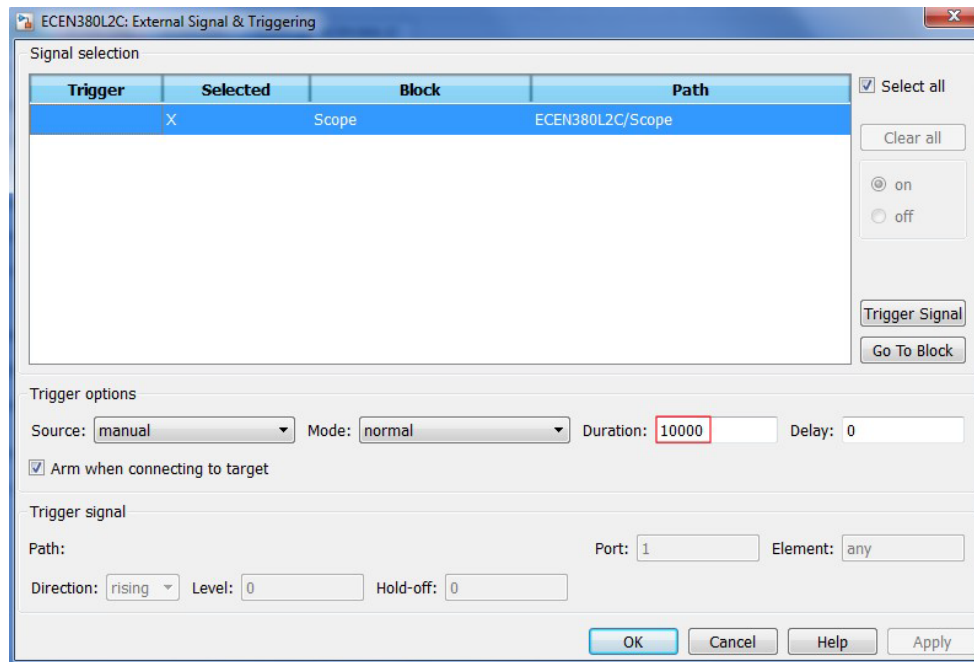

Figure 15 - Signal & Triggering
19. From there, click the **Signal & Triggering ...** button. Set the duration to 10000 (see Figure 15). Press OK.